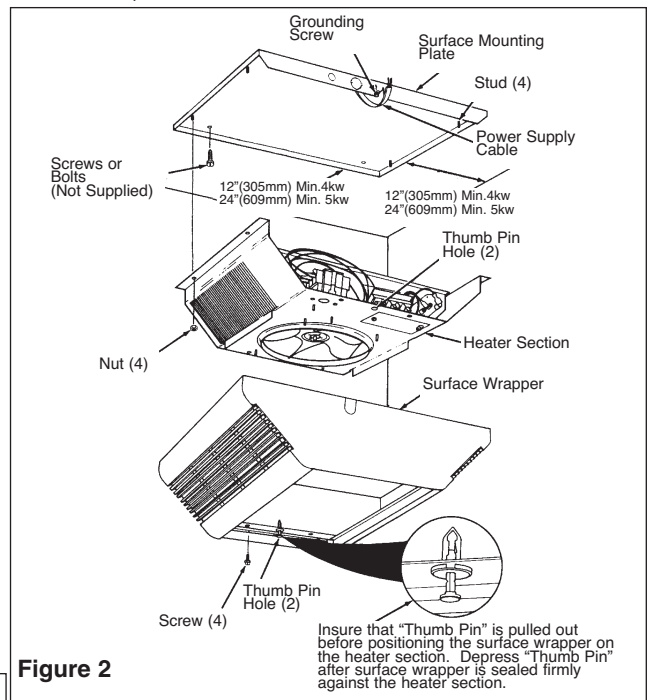

Figure 2
FAILURE TO INSTALL THE FOUR MOUNTING NUTS COULD RESULT IN THE HEATER FALLING. (SEE FIG. 2)
FAILURE TO INSTALL THE FOUR SCREWS, COULD ALLOW THE SURFACE WRAPPER TO FALL. (SEE FIG. 2)
6. Position the surface mounting plate against the ceiling and secure with bolts or screws (Figure 2). See Warning No. 9. Connect the ground wire to the green ground screw on the surface mounting plate.
10. Position the heater section over the studs on the surface mounting plate (Figure 2).
11. Push the heater section onto the studs and securely tighten four nuts (supplied) on the studs to secure the heater section to the surface mounting plate (Figure 2).
**NOTE:** Insure that the "thumb pin" in each end of the discharge grille opening is pulled outward to allow the body of the thumb pins to fit into the holes in the heater section. (Figure 2).
15. Install and securely tighten four screws (supplied) to secure the surface wrapper to the heater section (Figure 2).